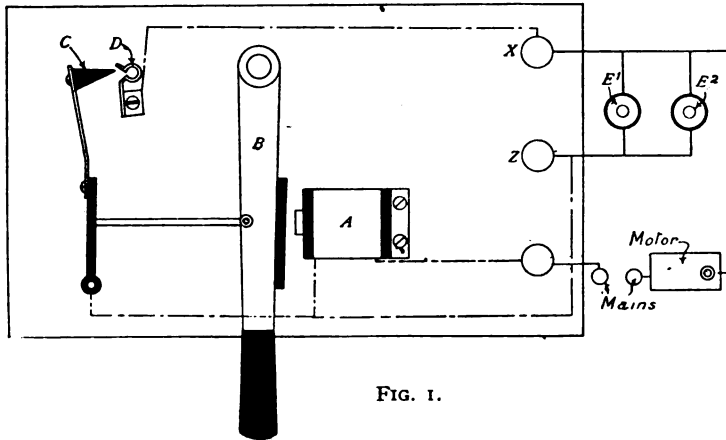
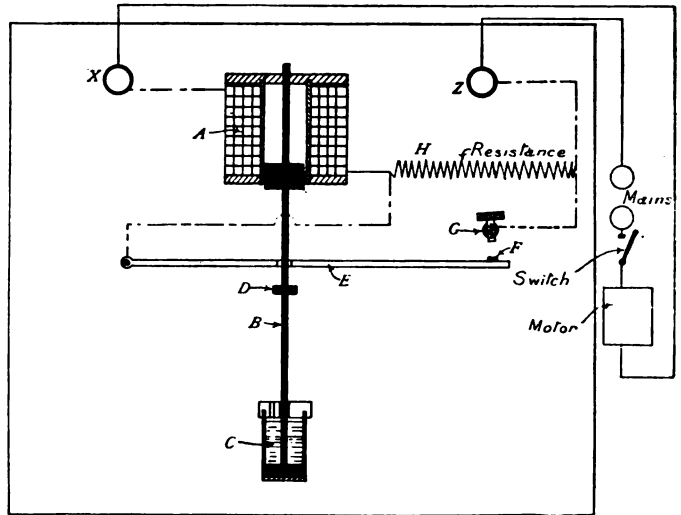
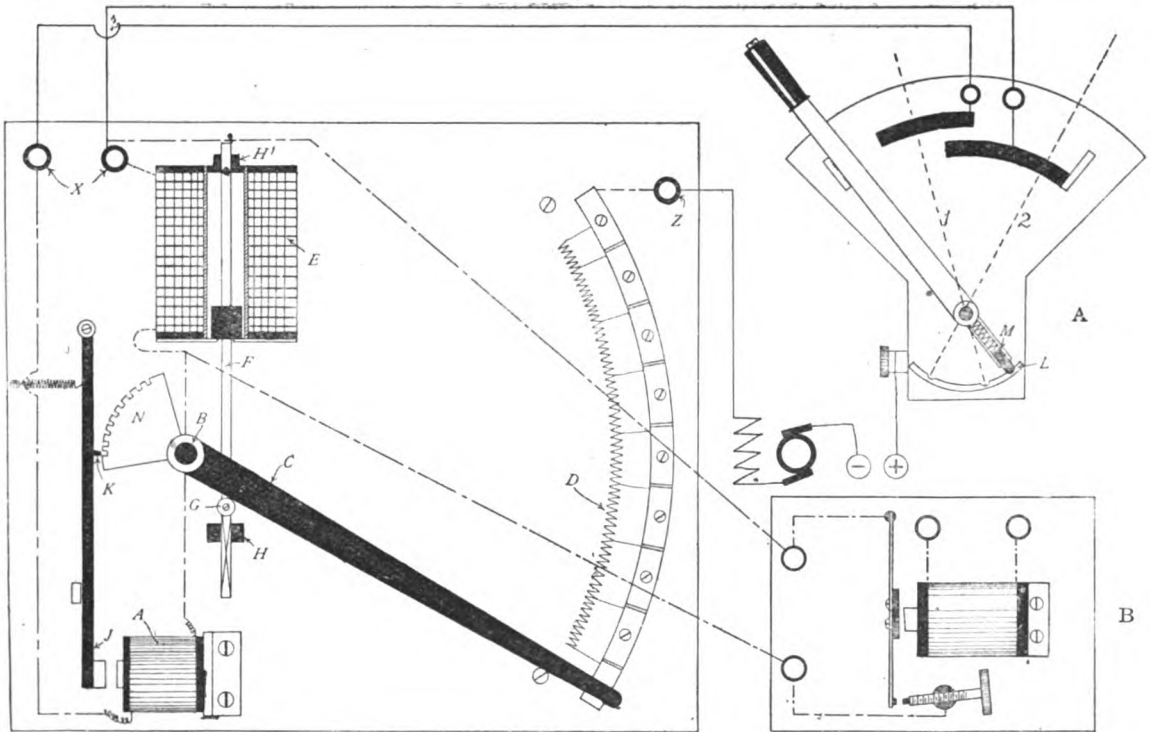

FIG. 1.
FIG. 2.
FIG. 3.
Figs. 1, 2 and 3 illustrate designs for automatic switches for this purpose. Fig. 1 is for small motors up to one-twelfth h.-p., such as light fans, etc. It is operated by pressing an ordinary bell-push; Fig. 2 illustrates a switch for starting motors up to one-fifth h.-p.; while Fig. 3 shows a starting and regulating switch for any power that an amateur is likely to deal with. Figs. 1 and 2 used together would start a one-fifth h.-p. motor by merely pressing a button.
The switches illustrated are for series motors, and are connected on the positive or negative side of the motor as an ordinary switch by the terminals X and Z in each case. For a shunt motor an extra set of contacts and connections would be necessary. These are left out for simplicity's sake. Fig. 1 consists of an electro-magnet, A, which attracts a lever, B, causing contact to be made between C and D, "closing" a circuit between the terminals X and Z. By pressing either of the buttons E1 or E2 the current passes from the mains to the terminals Z through the magnet C, then through the push to the other terminal X. The magnet will attract the lever, and when the push is released the current will still flow through the magnet to the terminal X but *via* C and D. The motor is stopped by pulling the lever away from the magnet, or breaking the extend circuit.
Fig. 2 shows a switch having a solenoid A, which draws up a plunger B, having a damping device C, consisting of a piston immersed in thick oil. When the current is switched on, it passes through the solenoid coils through the resistance H (of which more later). The motor then starts, and at the same time the lifter B starts, rising slowly. After a certain interval of time, the boss D lifts up the arm E. This causes the contact F to strike the contact G, which cuts the resistance H out of circuit, allowing the motor to run up to full speed and power. A damping device (C) is very necessary, because otherwise the space of time between the switching on and the resistance being cut out of circuit would be too short and too much current would pass through the armature. This "time" limit is regulated by the density of the oil used, and to a certain extent (depending on the strength of the solenoid) upon the weight of the moving part B. As both of these can be regulated, and since there is plenty of latitude allowable in the time the instrument takes to operate, adjustment should be easy.
A simplification of Fig. 1 added to this would enable a motor to be started from a number of points by means of pushes.
Fig. 3 is the switch by means of which all those having electrically-driven workshops—the machines in which are generally used singly—or wherever it is necessary to start and control a motor from
more than one place, could save time, trouble, and electricity, being able to stop, start, and regulate the speed of the motor from the machine at which he is working, without much extra expense, with absolute simplicity, and at the same time being fool-proof. The only apparatus necessary is a main switch (Fig. 3), as many subsidiary switches as machines to be controlled, and two safety devices, an overload cut-out and a circuit-breaker, described in a previous number.
To start the motor, the handle in the sub-switch (Fig. 3,A) is placed in the position 1; the current passes from the positive main through the magnet coils A to the pivot B of the lever C, through the resistance coils D to the terminal Z. This starts the motor. When the operator knows that the motor has started, he moves the lever (Fig. 3,A) to the position 2, and the current, instead of going through the coil A, goes through the coil E, which, acting as a solenoid, sucks up the plunger F, and thus, by means of the little roller G (to reduce friction) pulls up the arm C, which slowly cuts out the resistance D, bit by bit, until full speed is attained. The
arm would probably rise too quickly, so a damping device (as in Fig. 2) would be essential, unless the device explained later is used. H and H1 are bearings, of which H is square, in order to keep the roller G fixed in one position. Now suppose half-speed be attained, and the lever be placed to the position 1 (Fig. 3,A). The current
Fig. 3 illustrates such a device, the moving parts of which must be very light, ensuring rapid action. When the magnet attracts the arm the solenoid is cut out of action, and this should happen when any current larger than the afore-mentioned full load current.
Suppose this is 5 amps. The motor is started up, and the arm C is pulled up too quickly. The moment 5 amps. is exceeded the solenoid is cut out, allowing the arm to drop slightly, which lowers the current, allowing the solenoid to lift the arm again. Thus, if the cut-out is delicate enough, it would automatically regulate the speed at which the arm rises and no damping device would be needed. But suppose the sub-switch lever be placed at the "hold-speed" position, and an overload occurs, there will be nothing except fuses to prevent a large excess of current flowing. A circuit-breaker recently described would prevent this, and complete a switch which would be absolutely automatic—viz., in starting, self-regulation, and self-protection. Some reader may point out that, if full speed were required, it would be better to leave the sub-switch lever at the position 2, because the protecting switch would cut it out if overloaded. But it must be remembered that in order to have a powerful solenoid, it is necessary to have a large number of turns of wire, which means that the solenoid would have an appreciable resistance—enough to decrease the speed 50 or so r.p.m. Thus it is better to place it to the "hold speed" position, since the magnet needs very few turns. It must be remembered that a certain resistance to the solenoid is essential, because otherwise the cut-out would not perform its functions, viz., the current in the solenoid would only be decreased, and not reduced enough to make the action automatic. So it may be found necessary to add a small resistance to the solenoid. This would not deter the use of the switch as, when the lever was changed from position 1 to position 2 the probable slight drop of the arm would be compensated by the cutting out of the solenoid resistance. In Fig. 3 there has been accidentally left out another small roller above, G, to prevent F dropping when solenoid is not in use.